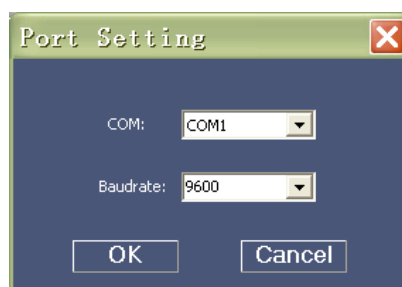

Fig. 1
2. After the StirPC is started, the window as Fig. 1 is shown. Select the PC port No. according to the serial port connected to the RS232 serial cable, the system default is "COM1". The Baud rate of this port should be set to be 9600bps and the change of other Baud rate will lead to communication failure.